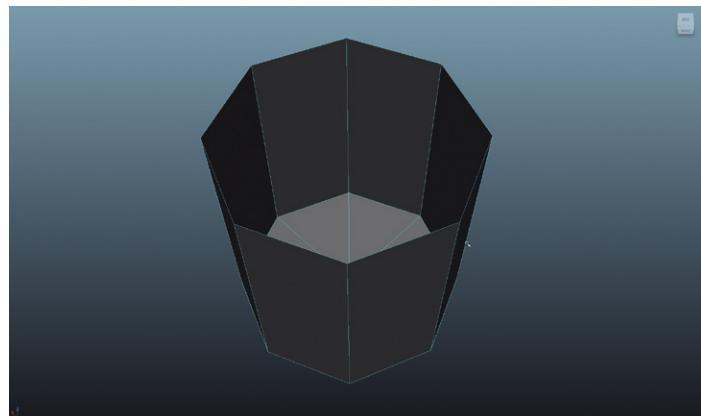

FIG 3.36 Making way for a new roof.
Step 51: Remove the roof. Do this by swapping to Faces Mode and deleting the polygons that make up the top of the cylinder. This will turn the cylinder into a sort of cup (Fig. 3.36).